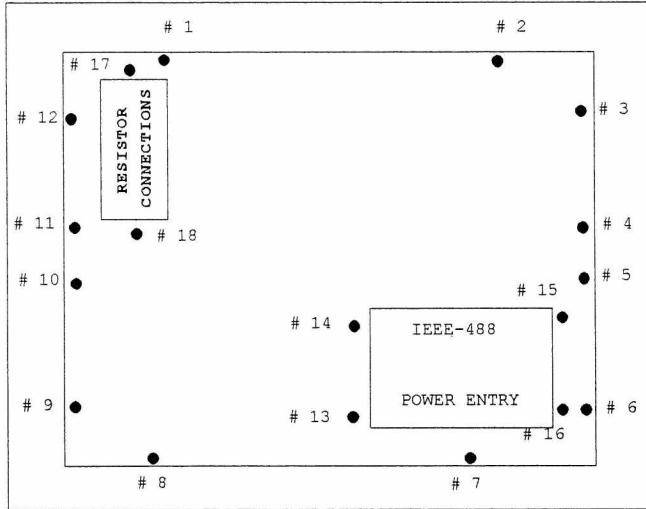

Figure 13... Back panel
1) Remove the screws labelled # 1 and # 2 (see figure 13).
2) Remove the all the remaining screws from the back panel (see figure 13 # 1 to # 17).